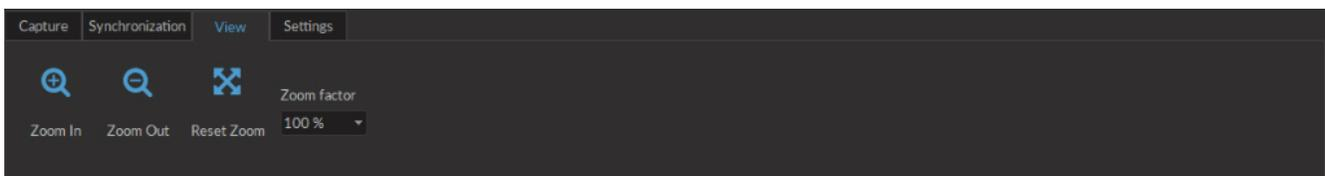

Figure 3.5: Camera Module - View Tab
3. The **View** tab (Fig. 3.5) allows the zoom of the video to be modified.